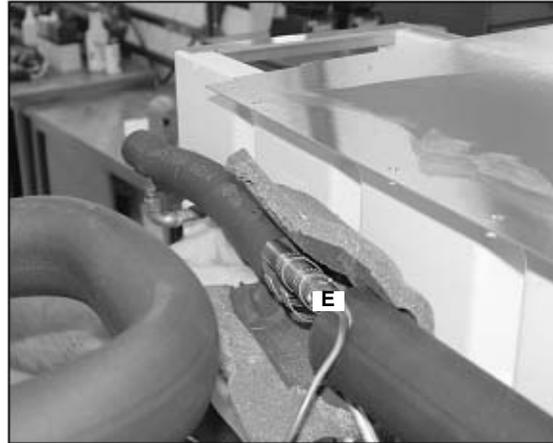

Figure 41.
43. Once the system has passed a leak test, cover the expansion valve bulb (E) with the insulation kit (Figure 41).